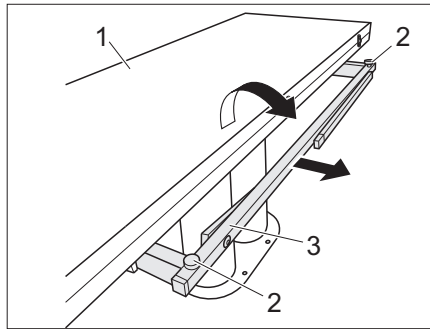

Fig. 106 Increasing the table size
- Pull out the table base (Fig. 106,3).
- Fold out the table half (Fig. 106,1).
- Use the two adjusting screws (Fig. 106,2) to adjust the table-top to the desired height.